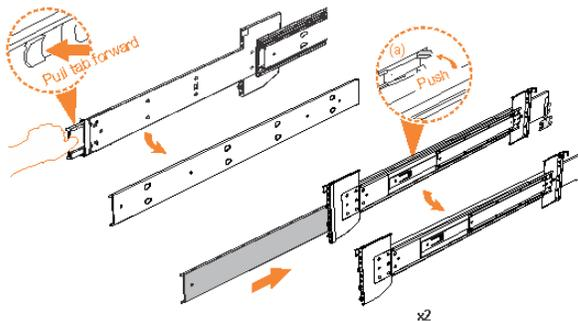

Figure 49. Detaching the inner rail section
3. Remove the inner member of the rail. Push the tab (**a**) and slide the middle rail member back, as shown in Figure 49 on page 91.